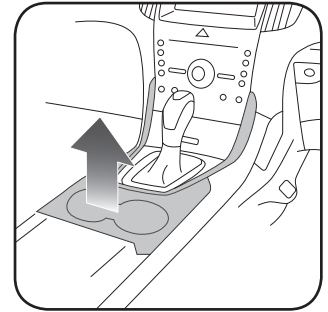

Fig. 1.2
2. Unclip and remove the center console trim panel (around the shifter). Unplug the connectors. (Fig. 1.2)